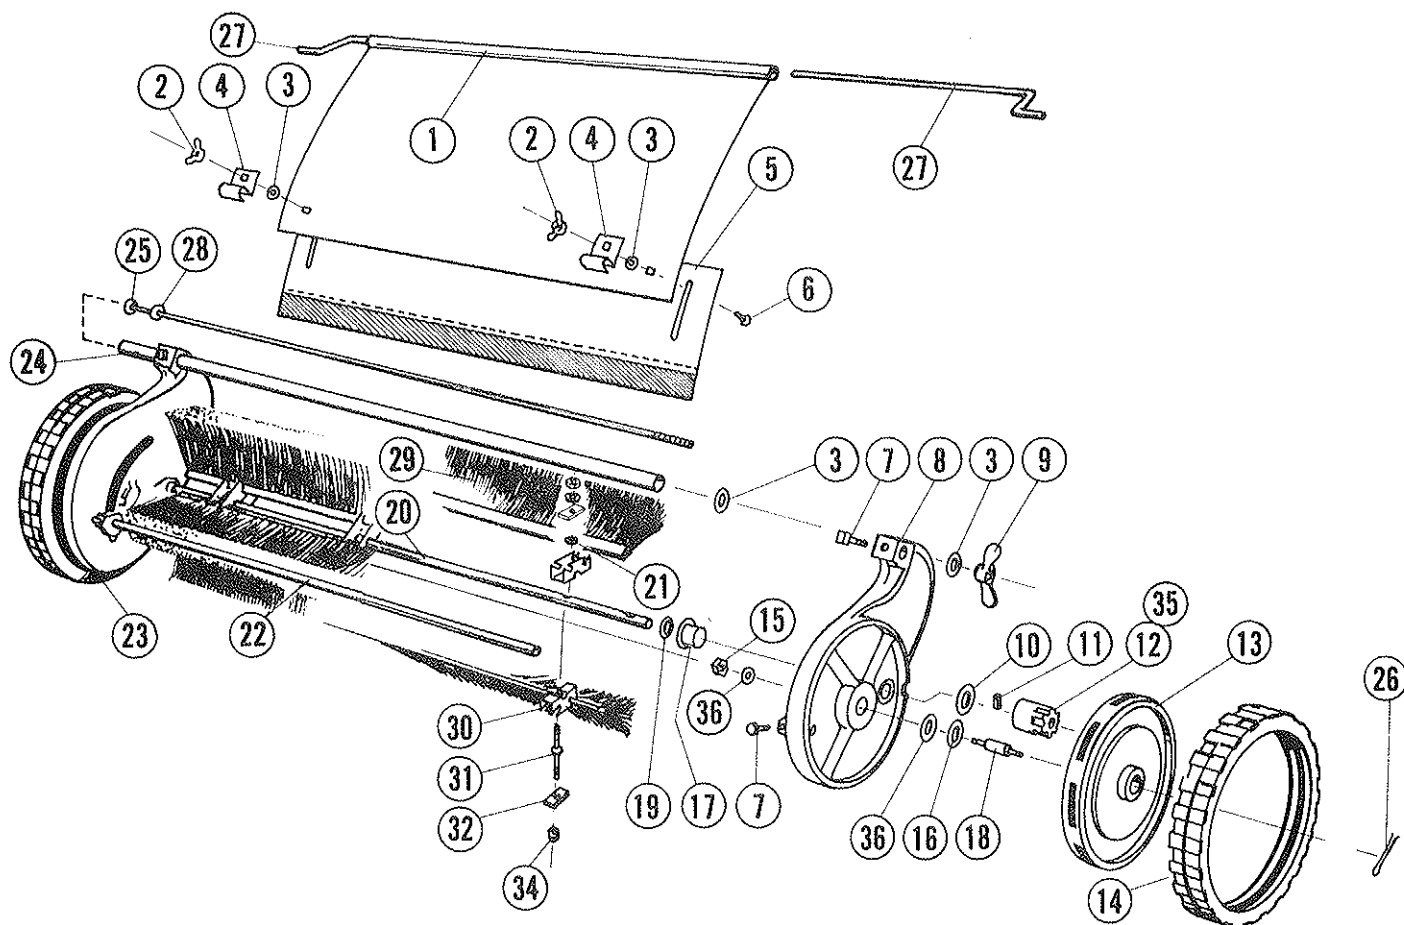

Figure 11
1. For grass clippings or leaves, adjust hood extension, Ref. No. 5, Fig. 11, and Brushes to highest positions. After trial run on lawn, should the settings be too high, lower slightly and try again until correct setting is found. Brush life may be prolonged by adjusting so contact with ground is light. The lighter the contact, the longer the wear and easier to pull.